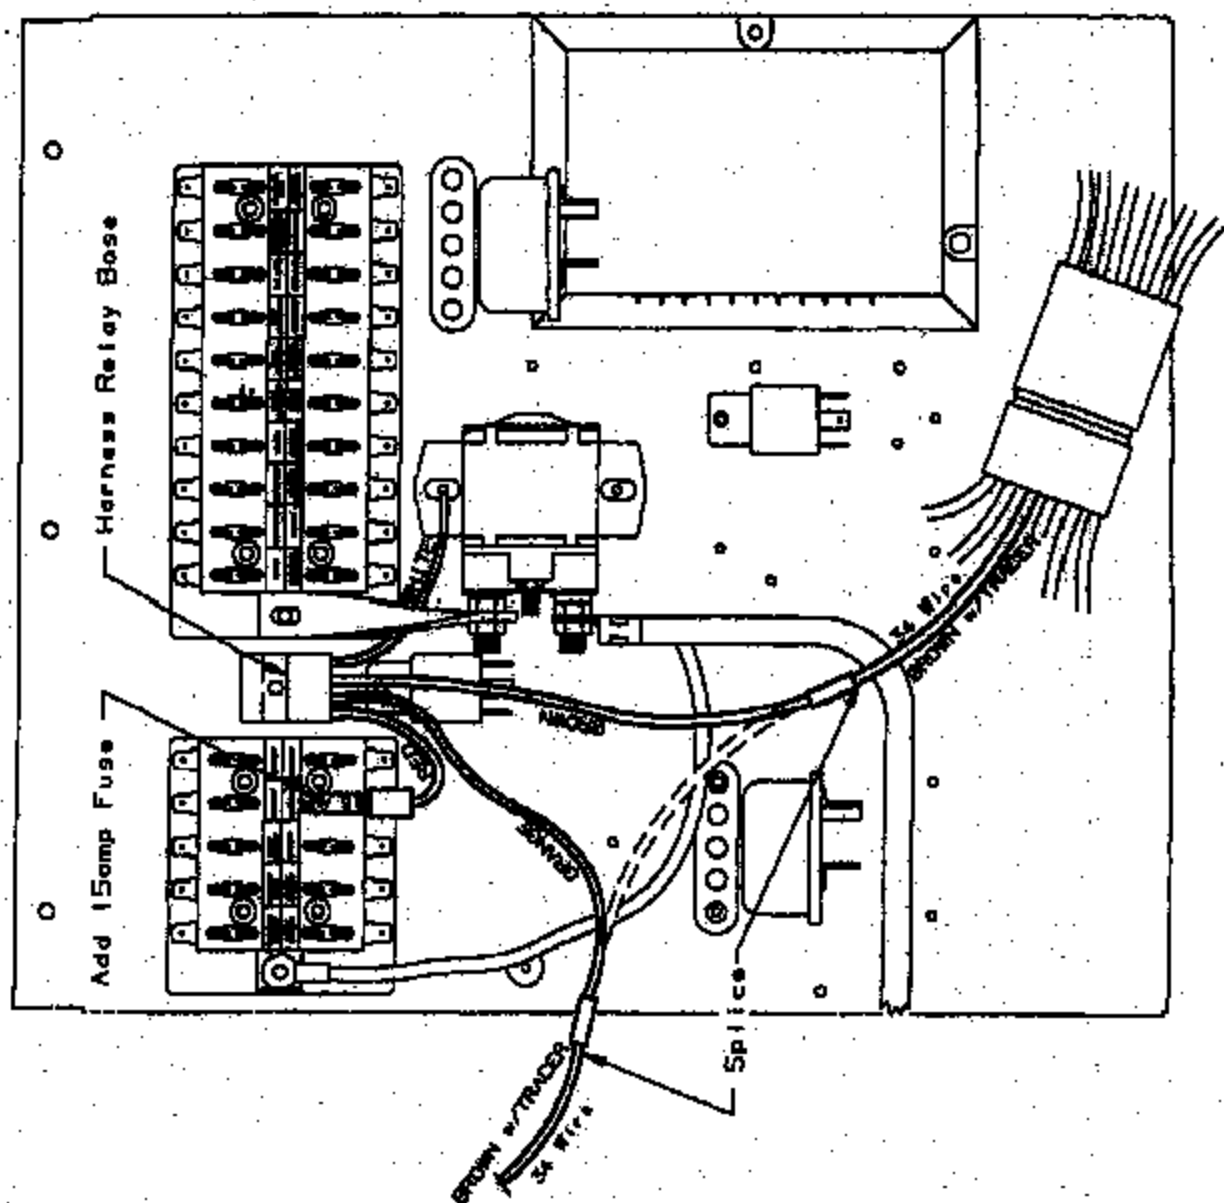

Figure 2
4. Locate the body electrical panel, which is to the rear of the compartment. Mount the relay base, which is part of harness #52004602, to the body panel, as shown in figure 2, with a #10 tapping screw, #27161648. (Harness and Screw are provided in kit #85490007.)
8. Locate the Rectangular shaped connector in front of the body panel as shown in figure 2. The third wire should be a brown wire with a white tracer "34". Cut the wire approximately 6" from the end of the connector.